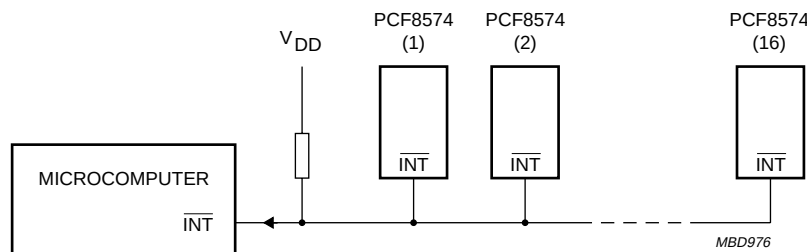

Fig.12 Application of multiple PCF8574s with interrupt.
**7.2 Interrupt** (see Figs 12 and 13)